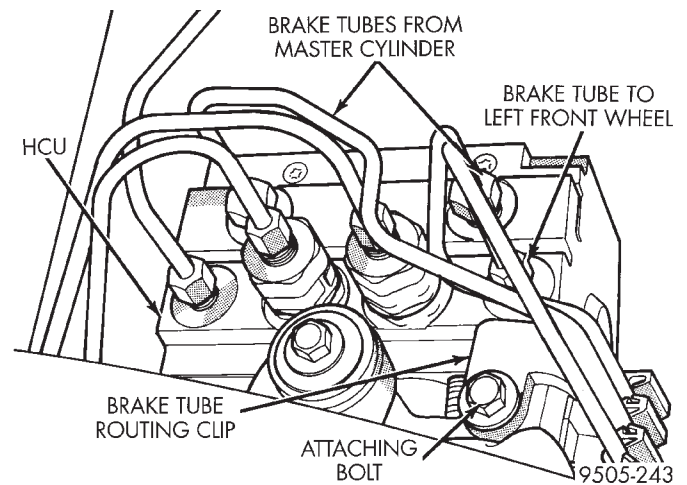

Fig. 18 Brake Tubes At HCU
(10) Remove the brake tube routing clip (Fig. 18) from the HCU mounting bracket. Then remove the 2 brake tubes coming from master cylinder and the brake tube going to the left front wheel (Fig. 18) from the HCU ports.
(6) Install the 2 brake tubes coming from master cylinder and the brake tube to the left front wheel (Fig. 18) in the HCU ports. Tighten the 3 brake tube nuts to a torque of 20 N·m (180 in. lbs.). Install the brake tube routing clip (Fig. 18) on the HCU mounting bracket and securely tighten attaching bolt.